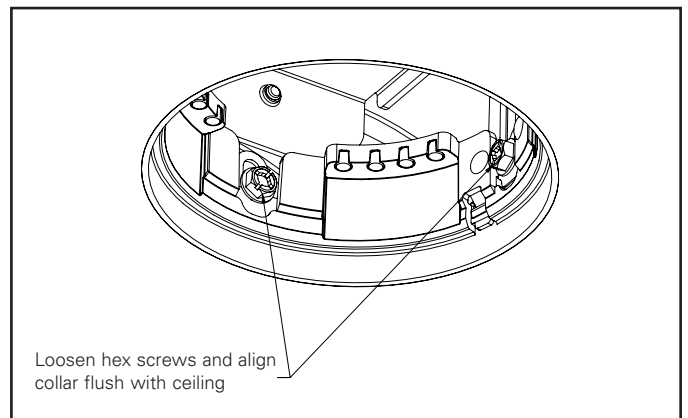
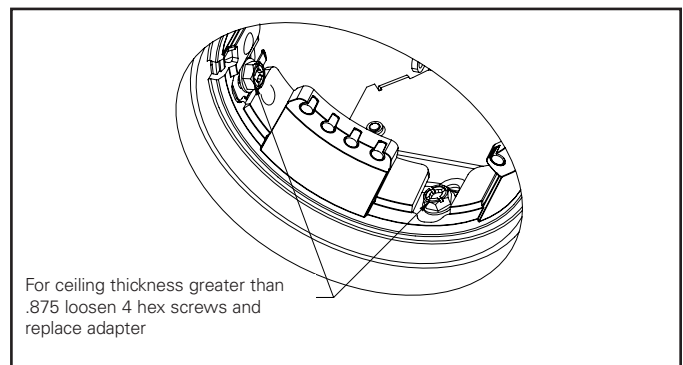

Figure 5.
Figure 8.
5. Once the ceiling is installed, remove the overspray protector, adjust fixture for ceiling thickness by loosening the 4 hex screws that attach the collar to the housing. Bring the bottom edge of collar flush with the finished ceiling (Figure 5) and tighten 4 hex screws. If ceiling thickness is greater than 7/8" and up to 2-1/2", replace existing collar with extension collar (PCE3* or CA3*) and adjust height using hex screws (see figure 8 and 9) as per the Extension-Collar-installation-instructions sheet # IL53450325. If Knife edge adaptors (CA3*) are used. Self-Flange adaptor which is part of the housing has to be removed before installing the fixture in the ceiling.